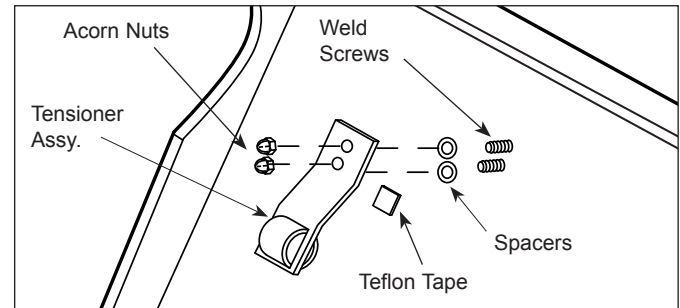

Figure 15. Replacing Roller Tensioner Assy.
1. Remove the acorn nuts and old Roller Tensioner assembly (Figure 15).